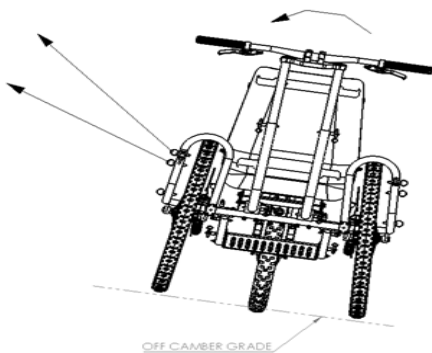

Figure 15. Using straps and the handlebars to cross a steep sidehill.
- b. The driver lifts up on the downside handlebar to keep the chair from tipping over (Figure 15).
- d. Straps pulling to the uphill side: If the uphill side of the trail is stable and free of branches and other obstacles, one or two side mules can attach straps to the side of the chair or back of the seat and pull up and to the side to keep the chair from tipping to the downhill side (Figure 13 and Figure 15).